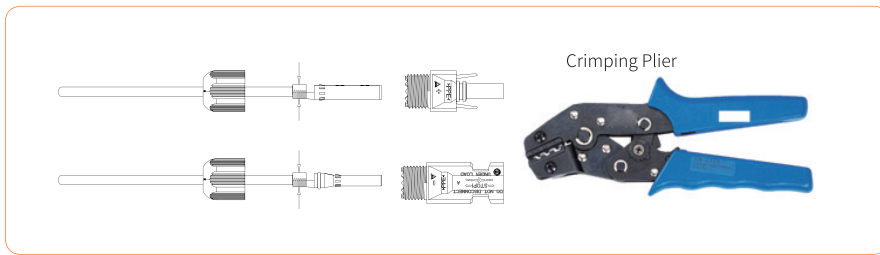

Figure 4-11
- ④ Insert the DC cable through the DC connector nut into the metal terminal and press the terminal with a professional crimping plier (pull back the cable with some power to check if the terminal is well connected to the cable), as shown in Figure 4-11: